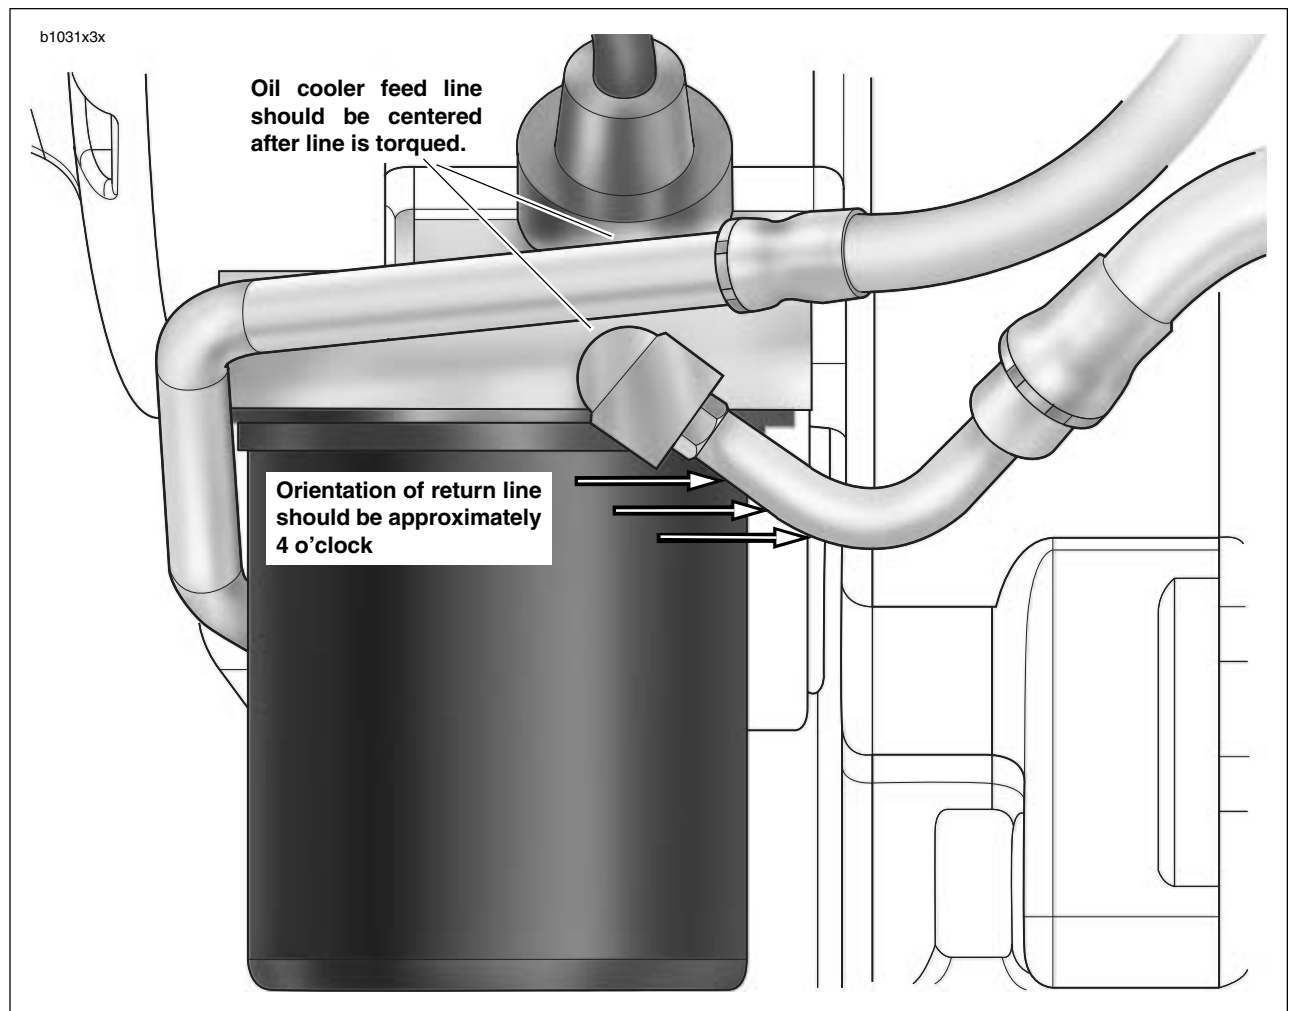

Figure 3-54. Oil Cooler Feed and Return Oil Lines Location and Orientation
30. See Figure 3-54. When torquing the feed oil line from the pump to the oil cooler it is necessary to torque the fitting at the oil pump first, 18-20 ft-lbs (24.4-27.1 Nm), making sure to center the oil line between the oil sending switch and the return oil line fitting on the crankcase.
See Figure 3-54. The orientation of the oil cooler return oil line where it enters the crankcase should be at approximately 4 o'clock to allow for proper alignment and clearance of other components on the vehicle.